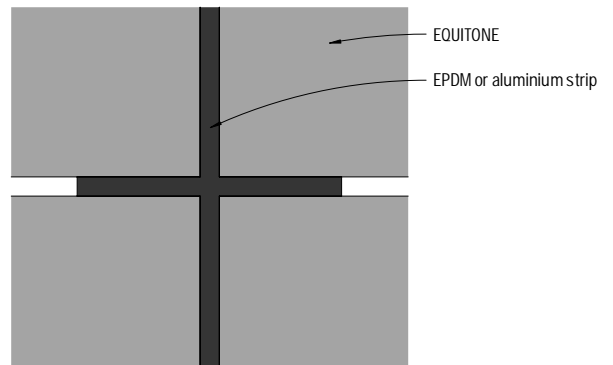

Figure 4: Open horizontal joint junction
- 2) In Figure 4, visible part of the support frame (battens) and weather barrier may be coated black with suitable paint.